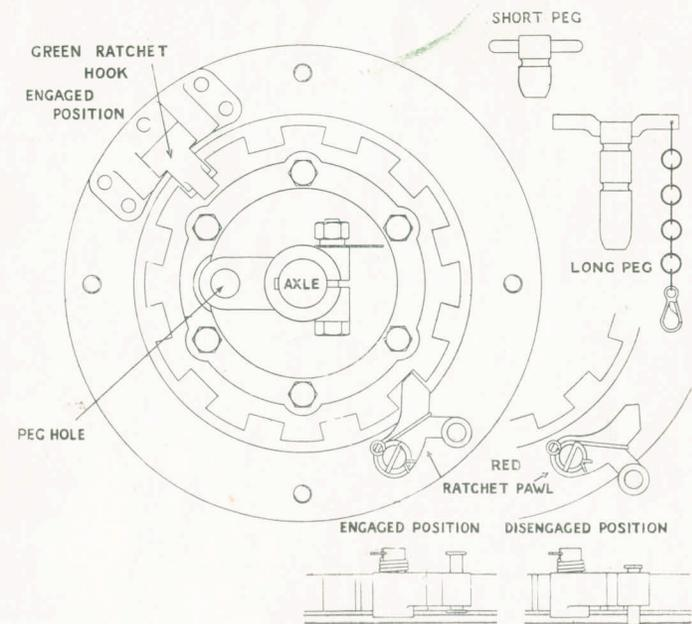

FIG. 11.
(A) The connections between wheelshaft and gearing are as follows: (see Fig. 11)
- (1) When fully inserting the long peg (fitted with a chain) in the hole provided in the left-hand hub, the bottom speed is engaged. This speed is to be used for heavy deep tillage.
- (2) When fully inserting this long peg in the right hand hub, the top speed is engaged. This speed is to be used for light surface cultivation.
- (3) When inserting this long peg only half-way in one or the other hubs, no speed is engaged and the machine can be wheeled about and can travel from place to place even with the engine stopped.
(B) The connection between wheelshaft and driving wheels can be effected by two distinct devices, viz., the Green Ratchet Hook securing rigid connection and the Red Ratchet Pawl enabling "free wheel" action (see Fig. 11), entire disconnection being obtained when both these two Ratchets are lifted. Out of the 16 obtainable combinations resulting, the more commonly used are indicated below:—
- (1) For Rototillage on light or medium soil, one wheel should have both Green Hook and Red Pawl down and the other wheel can have Green Hook lifted and Red Pawl down, thus facilitating turning at the end of the row.
- (2) For Rototillage on very stiff soil, both wheels should be rigidly connected, which is best obtained by both Green Hooks down, whereas Red Pawls remain lifted. If turning is found difficult, one of the Green Hooks can be lifted before operating the turning and dropped again after turning has been effected.
- (3) For mowing, the L.H. Wheel should have both Green Hook and Red Pawl lifted and the R.H. Wheel the Green Hook down.
- (4) For ploughing and other traction work on the field, both wheels should have Red Pawl down and Green Hook lifted except for No. 51, where one of the wheels should have the Green Hook down.
- (5) For road travel, one wheel should be rigidly connected, the other free wheeling, which is best obtained by one wheel with both Green Hook and Red Pawl down and the other wheel with Green Hook lifted and Red Pawl down.
- (6) For stationary work, special precautions should be taken to prevent any possibility of the wheels being set in motion, these precautions consisting in the first place by inserting the Long Peg only half way as described under A3 on page 13, and further by lifting both Green Hook and Red Pawl on both wheels.